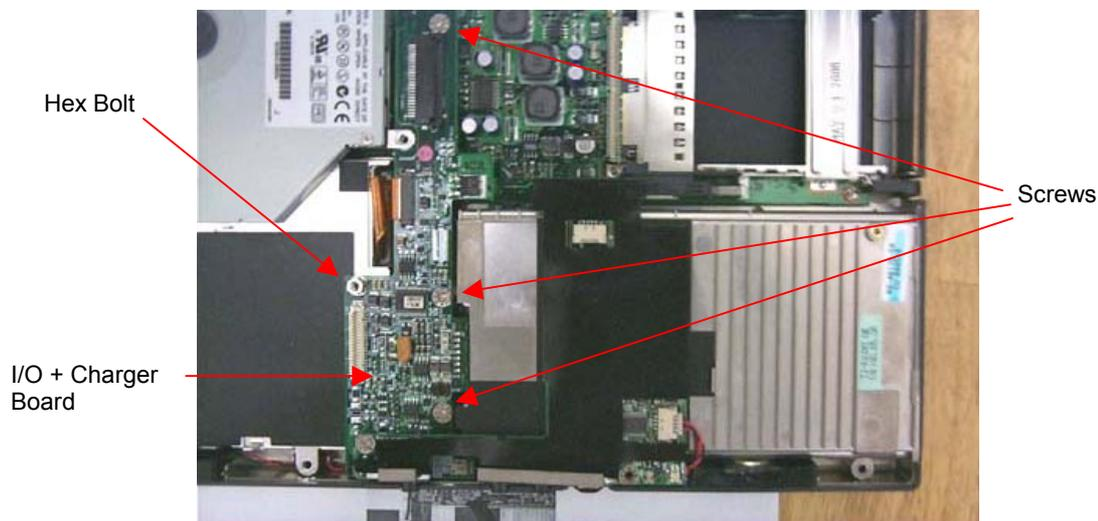

Figure 5-11 I/O Board Assembly
3. There are three screws and one hex bolt securing the I/O board (see Figure 5-11). Remove the screws and slowly pull out the I/O board.